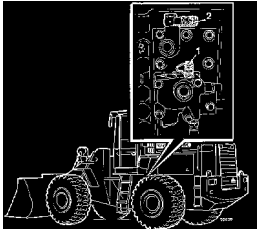

Figure 4
9. Check torque converter pressure and lubricating oil pressure with selector in neutral position and engine at high idling speed. Connect the pressure gauge on the left side of the transmission, see Figure 4 and read off the pressure.